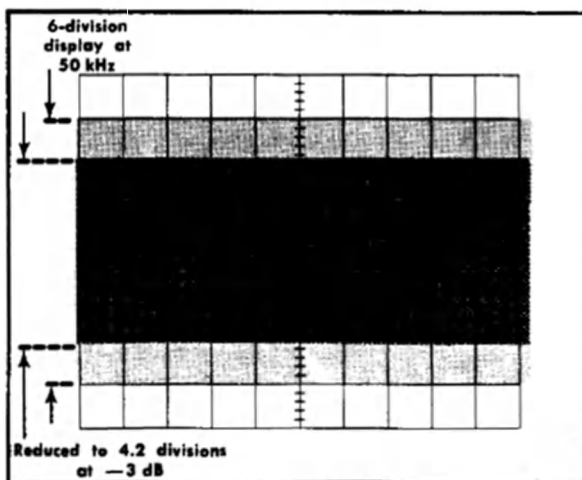

Fig. 5-8. Typical CRT display when checking vertical frequency response.
d. Without changing the output amplitude, increase the output frequency of the constant-amplitude generator until the display is reduced to 4.2 divisions (-3 dB point; see Fig. 5-8).
- i. Without changing the output amplitude, increase the output frequency of the constant-amplitude generator until the display is reduced to 4.2 divisions (-3 dB point; see Fig. 5-8).
- d. Without changing the output amplitude, increase the output frequency of the constant-amplitude generator until the display is reduced to 4.2 divisions (-3 dB point; see Fig. 5-8).